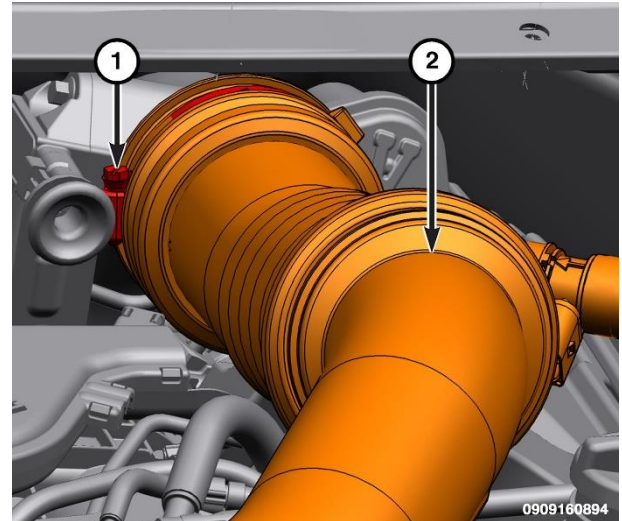

Figure 183 – Clean Air Hose at Turbo
18. Loosen clean air hose clamp (1) and remove the clean air hose from the turbocharger elbow (Figure 183).